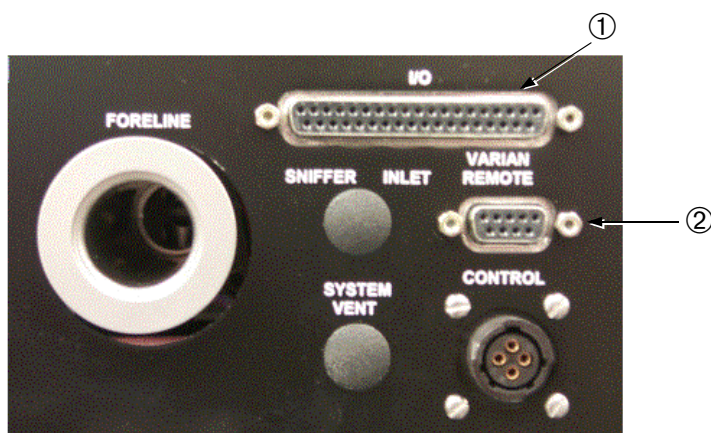

Figure A-1 System Control and Communication Panel
The system control and communication panel (Figure A-1) is located on the lower left section of the rear panel. This appendix discusses the I/O ① and the Remote Control ② interfaces.